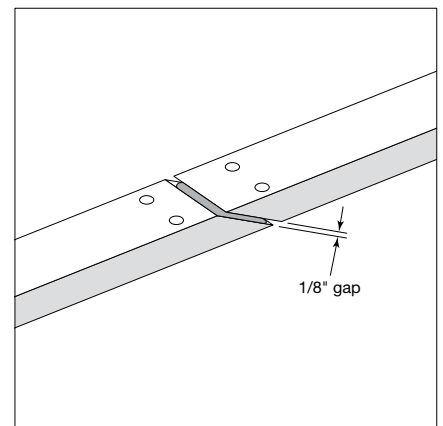

Fig. 2
- Create a 1/8" expansion joint for runs over 18' (**Fig. 2**).